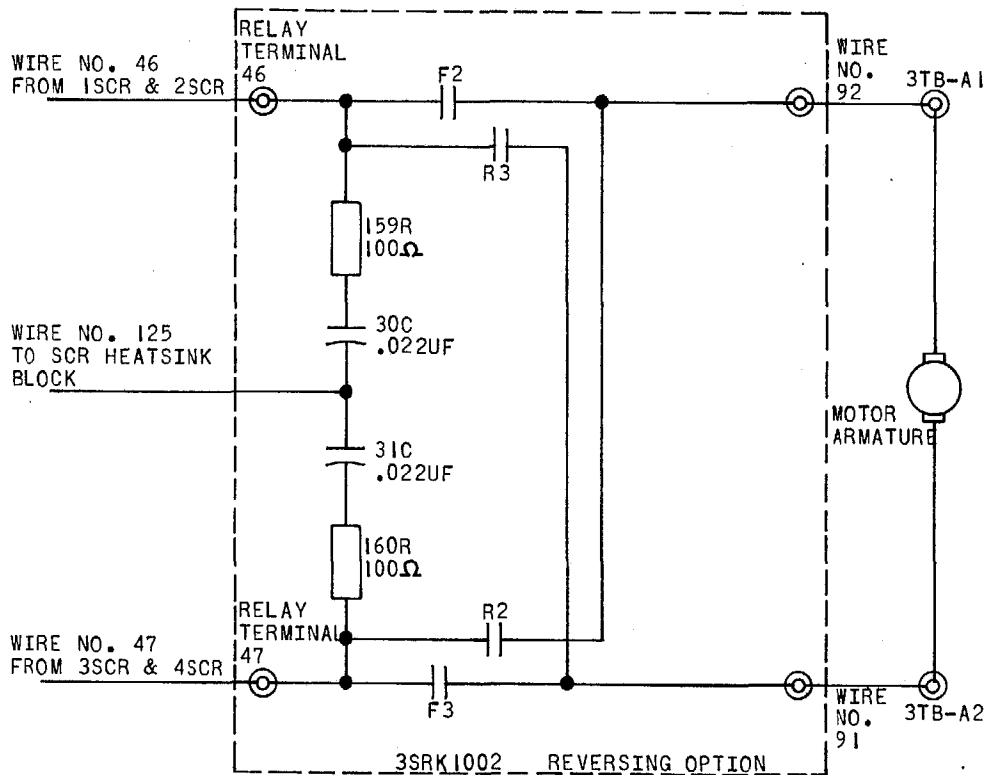
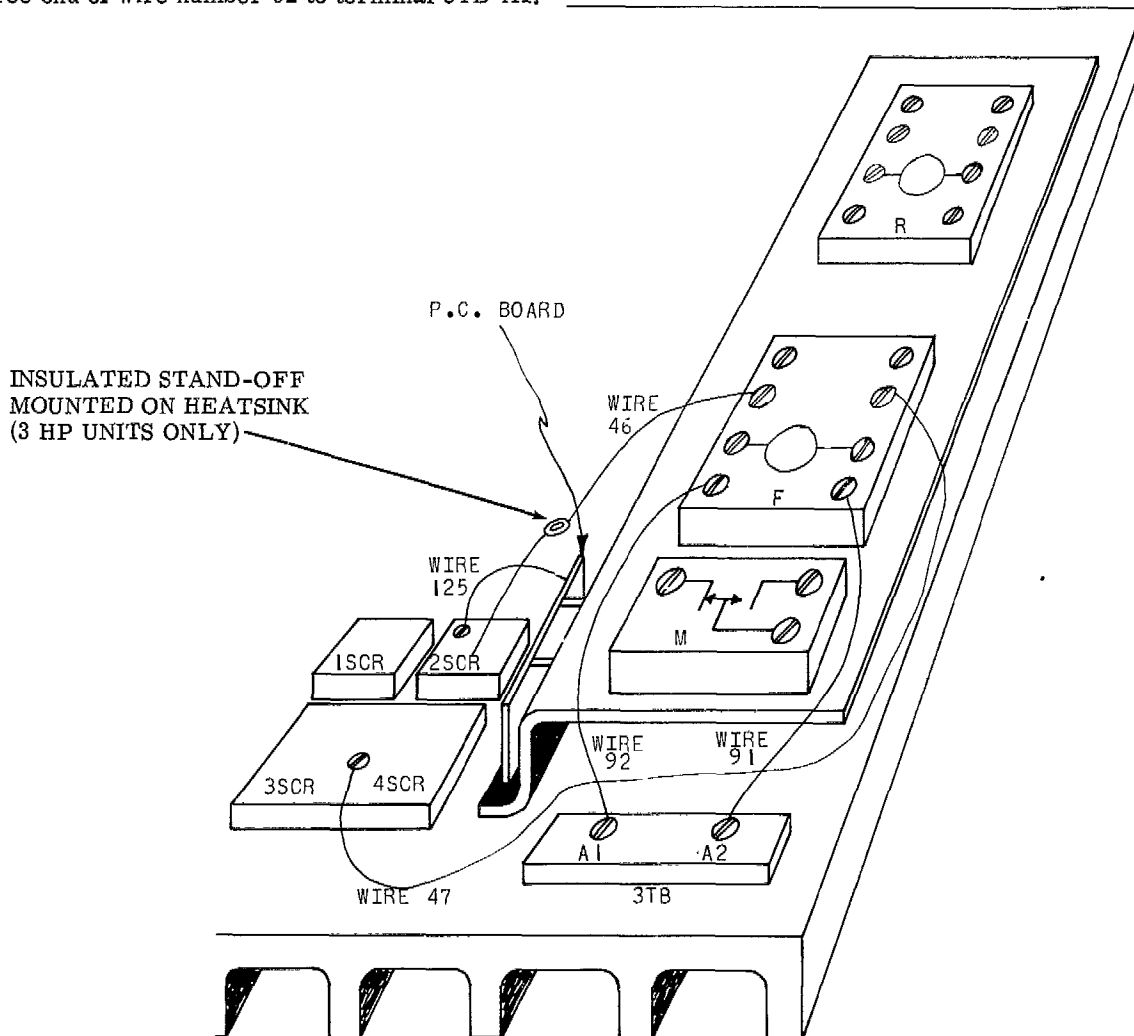

Figure 1. Motor Armature Circuit with 3SRK1002 Reversing Option Installed
Figure 2. Customer Connection Diagram for 3SRK1002 Reversing Option
For proper mounting location and orientation, refer to Figure 2 in instruction book GEK-36391. Hardware for securing the bracket to the controller chassis is provided with the option.
The motor armature circuit must be connected as shown in Figure 1. Refer to Figure 2 for terminal locations on the contactors. After the option has been
1. Locate wire number 46 (AWG 12) which runs from the SCR's to terminal 3TB-A1. NOTE: ON 3 HP UNITS, WIRE 46 RUNS FROM THE SCR'S TO THE INSULATED STAND-OFF AND THEN TO 3TB-A1. Disconnect this wire from 3TB-A1 and connect it to contactor terminal 46 on the reversing option (see Figure 2).
2. Locate wire number 47 (AWG 12) which runs from the SCR's to terminal 3TB-A2. Disconnect this wire from 3TB-A2 and connect it to contactor terminal 47 on the reversing option (see Figure 2).
5. Locate wire number 125 (AWG 18) which is factory connected to the reversing option. Connect the free end of wire number 125 to terminal 125 on the SCR heat sink block as shown in Figure 2.